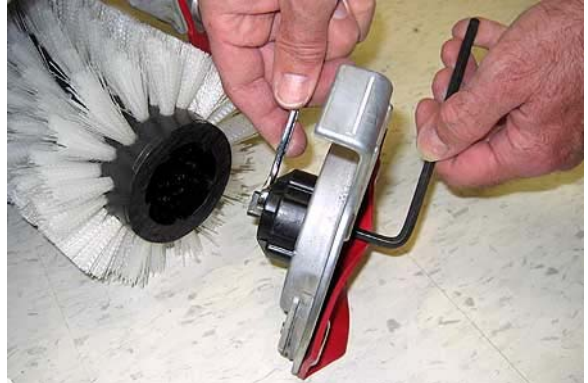

FIG. 55
3. Hold the brush plug shaft with a wrench and loosen the 6mm hex screw (Figure 55).